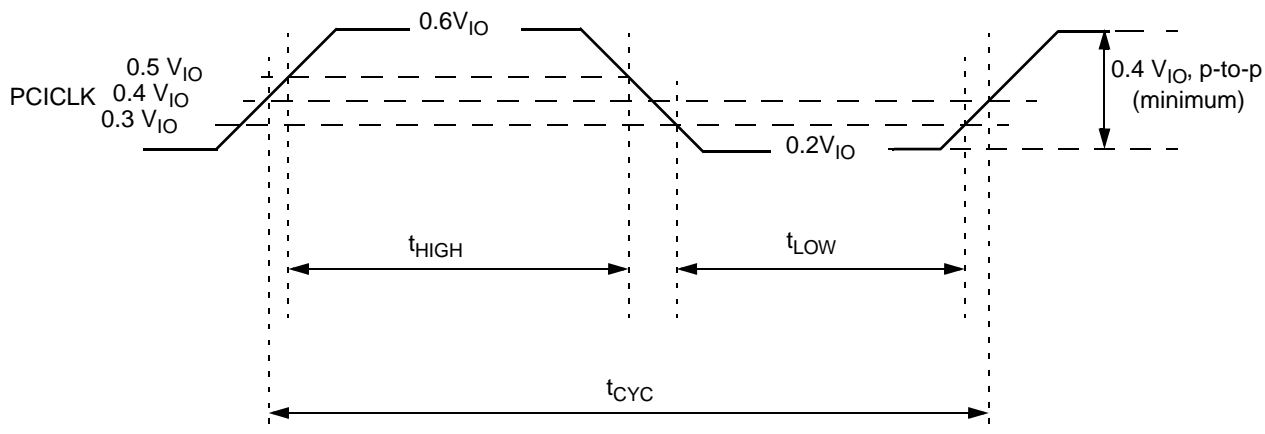

Figure 8-15. PCICLK Timing and Measurement Points
3. Slew rate must be met across the minimum peak-to-peak portion of the clock waveform (see Figure 8-15).